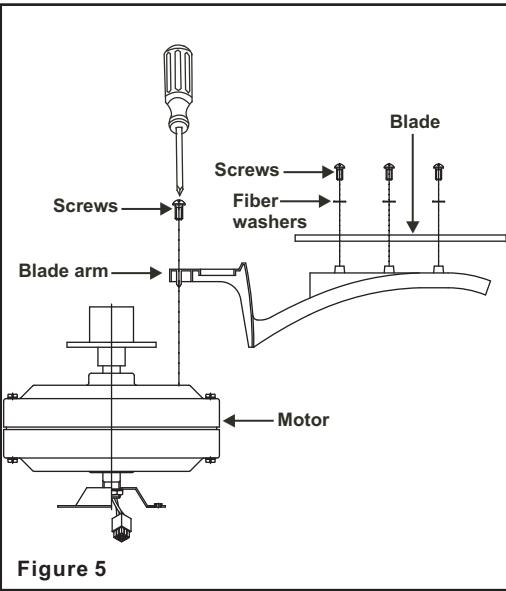

Figure 5
Step 1 Attach blades to blade arms using three screws and fiber washers as shown in Fig. 5. Start a screw into the arm, do not tighten. Repeat for the 2 remaining screws and washers.
Step 3 Fasten the blade assembly to the motor using the motor screws provided. (Fig. 5)